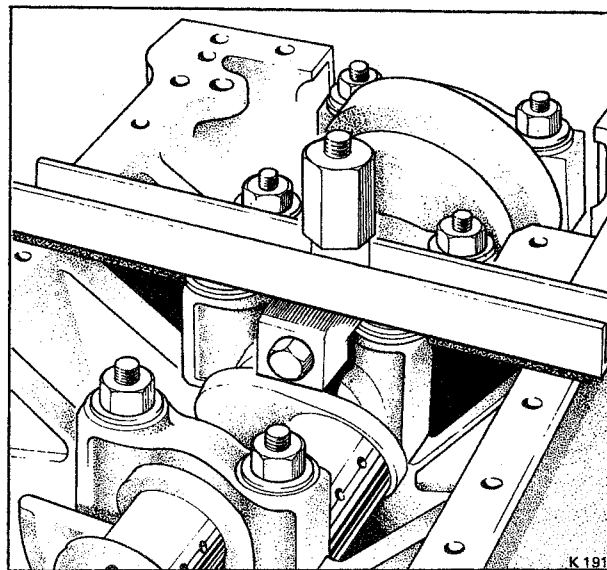

Fig. E7 Removing the main bearing caps
26. Unscrew the main bearing cap nuts and withdraw the caps using the extractor (RH 7208) and attachment (RH 7498) as shown in Figure E7.